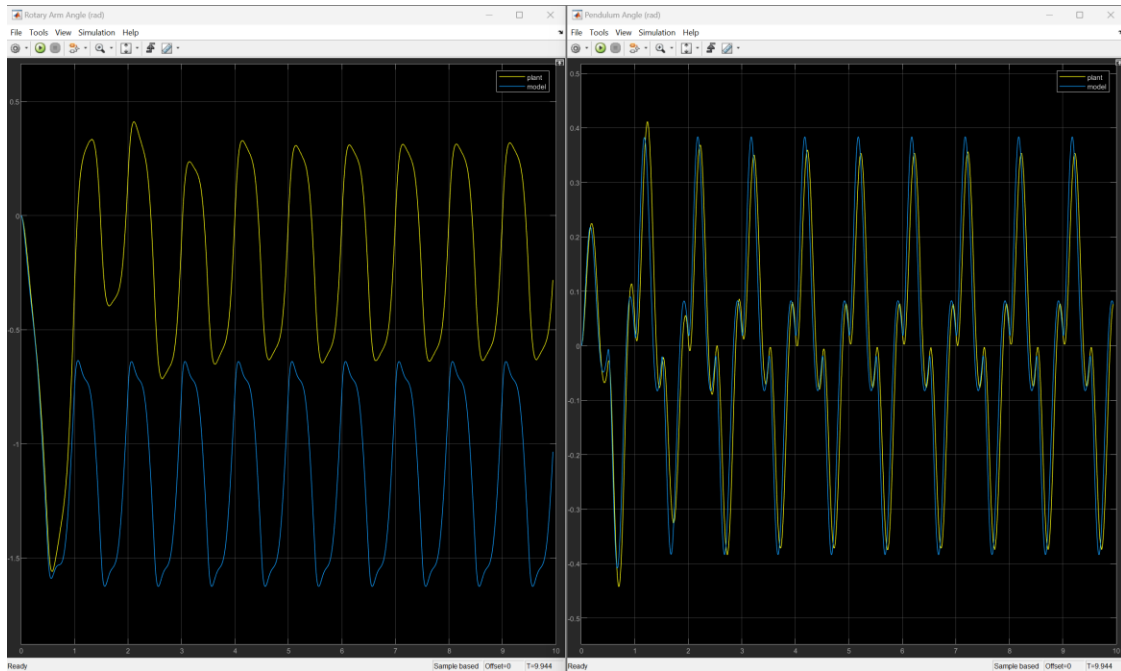

Figure 2: Sample response of the measured vs. modeled pendulum system.
7. Capture a screenshot of the **Base Encoder Angle (rad)** scope and the **Pendulum Angle (rad)** scope. The response should look similar to Figure 2 below.